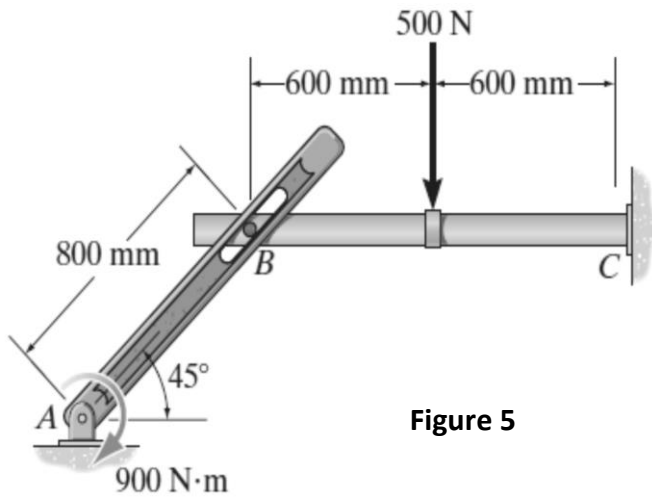

Figure 5
5. In figure 5, if the peg at B is a smooth round cylinder and there is no friction at the contacting surfaces, determine the components of reaction at the pin A and fixed support C. The torque at A is 900 Nm clockwise. The force acting on rod BC is 500 N downwards. The rods are massless. (10)